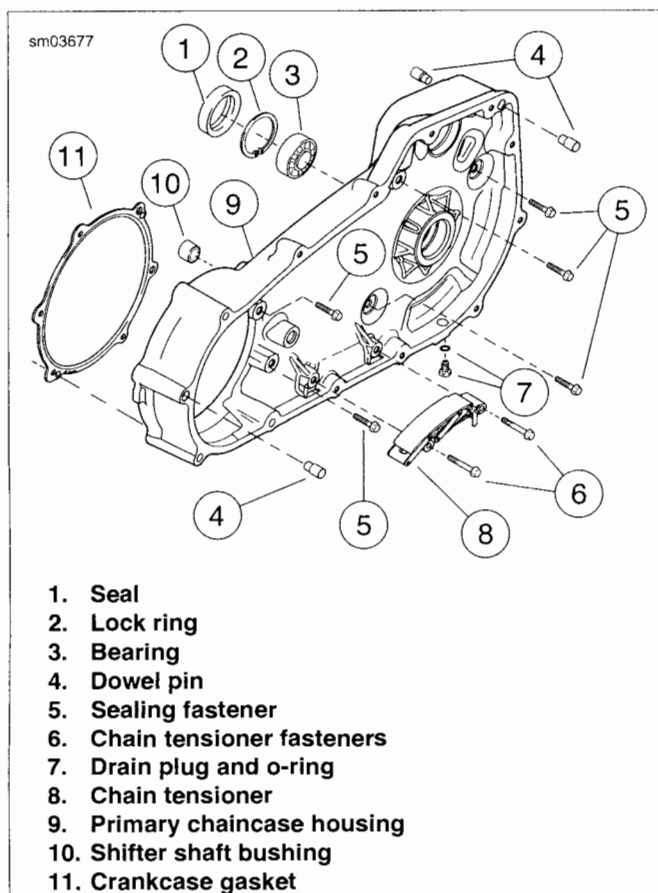

Figure 5-21. Primary Chaincase Housing
5. See Figure 5-21. Remove sealing fasteners (5) securing primary chaincase housing (9) to crankcase and transmission. Discard the crankcase gasket (11) and sealing fasteners (5).